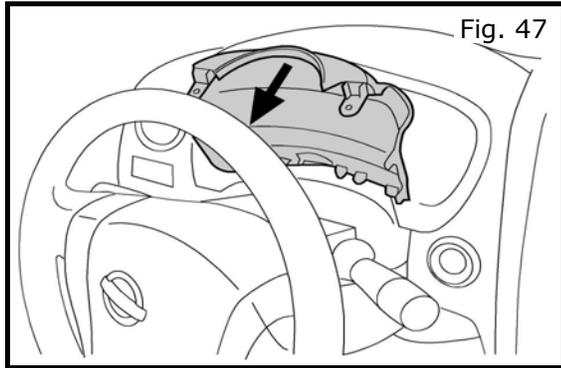

Fig. 47
- a) Carefully install the upper steering finisher onto the steering column as shown in Fig. 47.